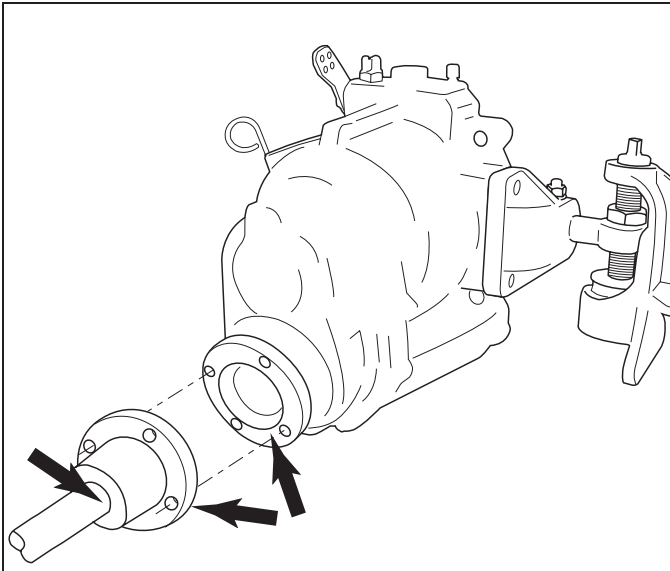

Figure 11-22 Shaft Mating Surface Check
Locations "A" (Figure 11-22) are access holes in order to loosen the raw water pump attaching bolts. The bolts are secured in the pump by O-rings, and will not fall out during removal.
1. Check the mating surfaces on the transmission and the propeller shaft couplings. Make sure they are clean and flat (Figure 11-22).